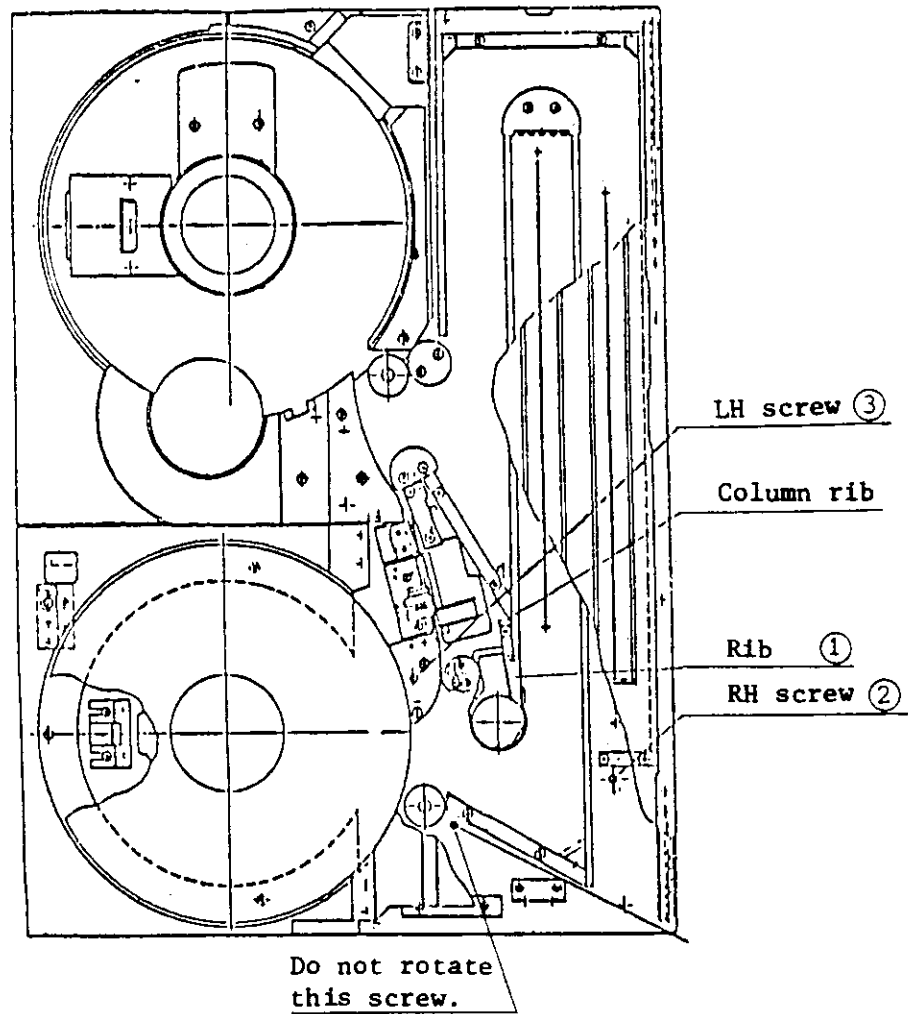

Figure L.9 Capstan adjustment
- (1) Perform capstan motor adjustment procedures whenever the capstan motor has been replaced.
- (2) Use a good quality tape (12.63 to 12.65 mm wide).
- (3) Install the capstan motor so that the largest clearance is obtained between capstan and rib (see ① on Figure L.9).
- (4) If the adjusting screws ② and ③ are rotated two turns or more, check the clearance between capstan, rib ① and casting face ④ to prevent capstan damage.
- (5) During adjustment, check for the correct tape speed.